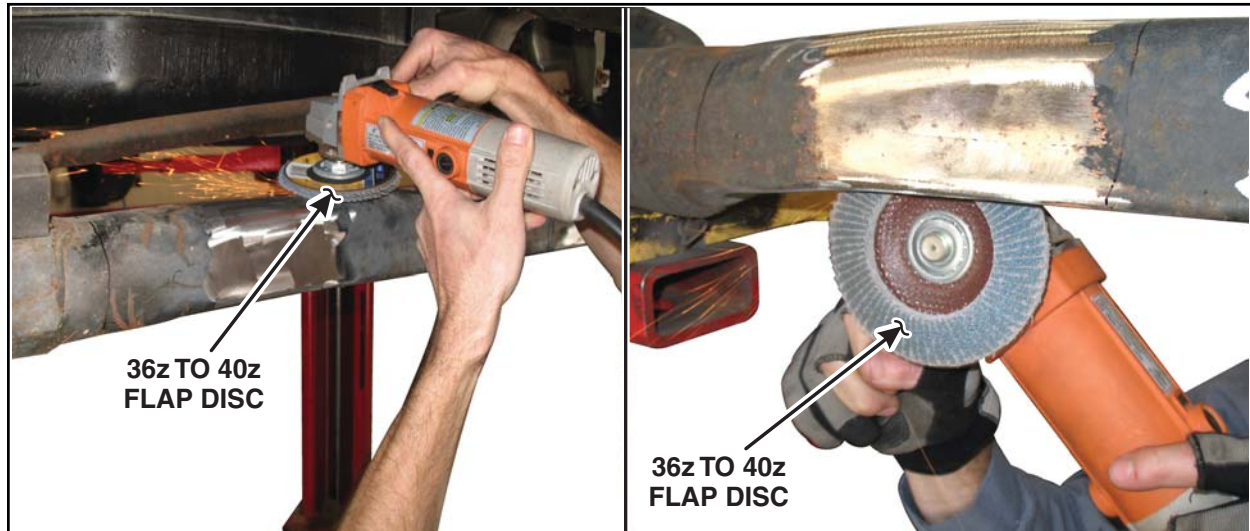

FIGURE 3
- Using a 36z to 40z flap disc or equivalent, grind the rear axle in the marked areas. Remove all E-coat and rust. Metal should be shiny in appearance. (Do not try to remove tool marks or marks caused by deep stone pecking or pitting.) See Figure 3.